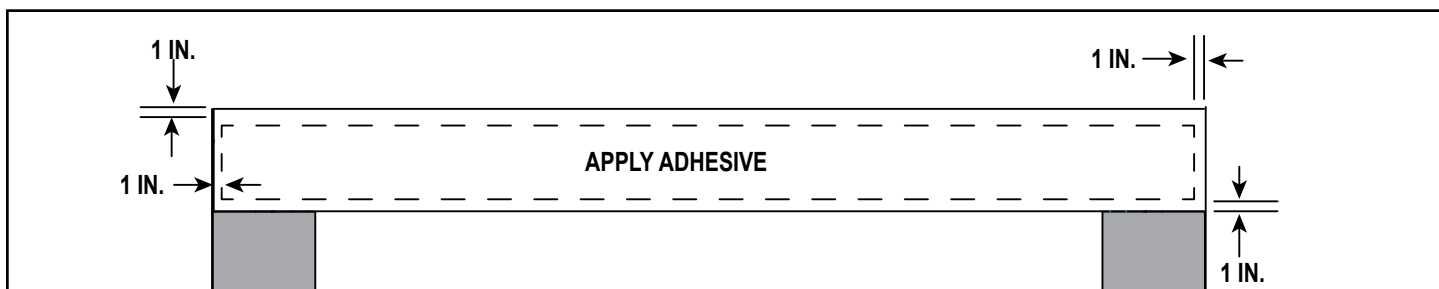

Figure 10.28. Apply Adhesive For Top and Bottom Granite
6. Apply a generous amount of adhesive to the back side of the bottom granite piece. The same method will be used for top and bottom pieces. See Figure 10.28 for appropriate zone to apply adhesive. DO NOT apply adhesive too close to the edges. Leave 1 in. around edges. Avoid leakage of adhesive around edges by not applying it too close to the edge of the granite. Place
8. Apply a generous amount of adhesive to the back side of the top granite piece. See Figure 10.28. The granite material is heavy and will need to be adequately secured to the wall.